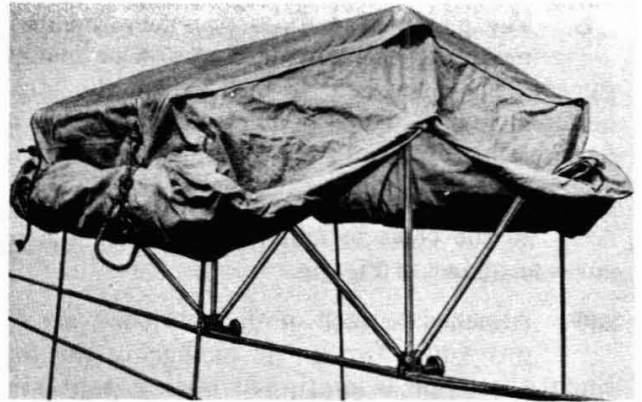

Fig. 3—Tent Sidewalls Rolled and Tied
2.05 Two ropes in each sidewall provide a means of securing the sidewalls when they have been rolled up. Figure 3 illustrates the tent with the sidewalls rolled up and tied with the sidewall ropes.